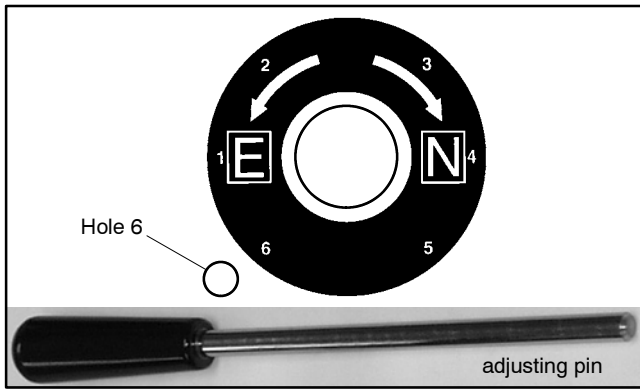

Figure 11-24 Pin The Weight To The Frame. See Step 5.
5. Pin the weight to prevent the mechanism from moving. Insert the adjusting pin (see page 1) through the weight frame and into the weight. Use the hole labeled **6** on the round label; it is the bottom left hole adjacent to the center operator shaft (in the 7 o'clock position). See Figure 11-24.